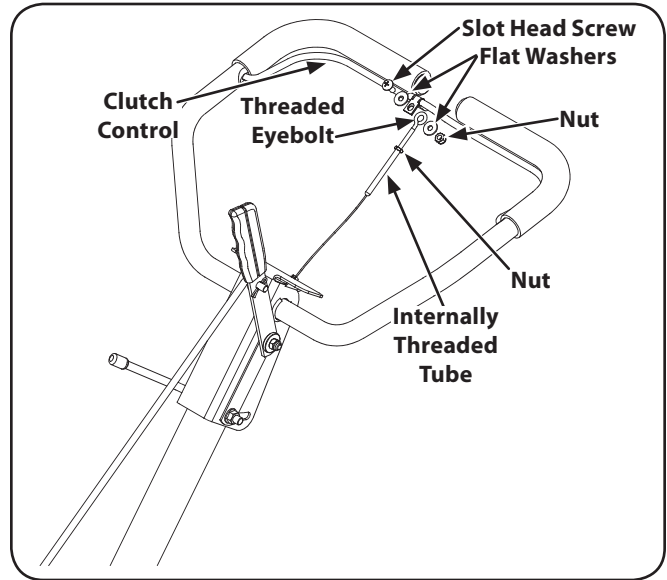

Figure 3-4
4. Remove the slot head screw, nut and two flat washers from the clutch bail. See Fig. 3-4.
6. Thread the eyebolt and nut removed earlier into the internally threaded tube at the end of the cable. The thread engagement should be about  $\frac{3}{4}$ ". Tighten the nut against the tube at the end of the cable. See Fig. 3-4.